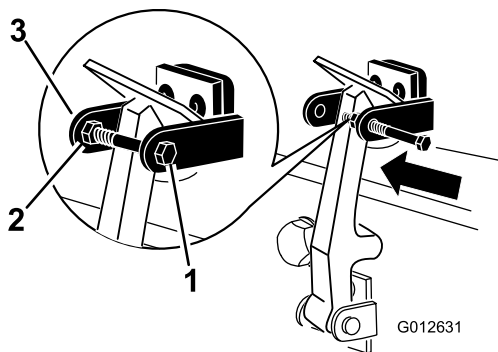

Figure 6
8. Screw the bolt into the other arm of the hood-latch bracket to lock the latch in position (Figure 6). Tighten the bolt but do not tighten the nut.